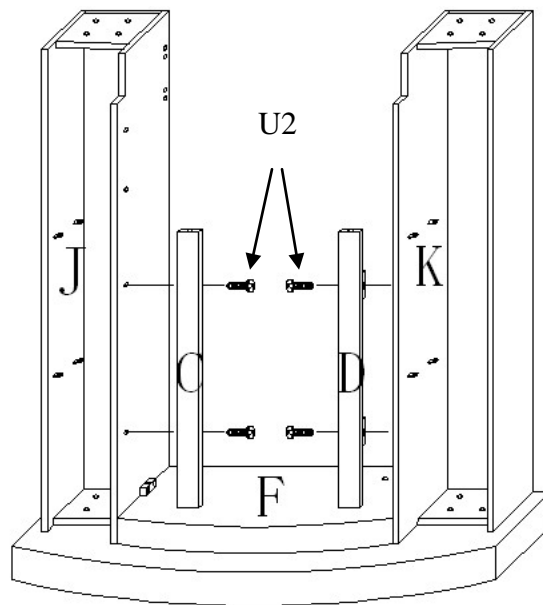

fig. 5
Step 5: Attach the Left Front Panel (C) to the Left Cabinet (J) using 2pcs KD Screws (U2).
Attach the Right Front Panel (D) to the Right Cabinet (K) using 2pcs KD Screws (U2). See Fig. 5 below.